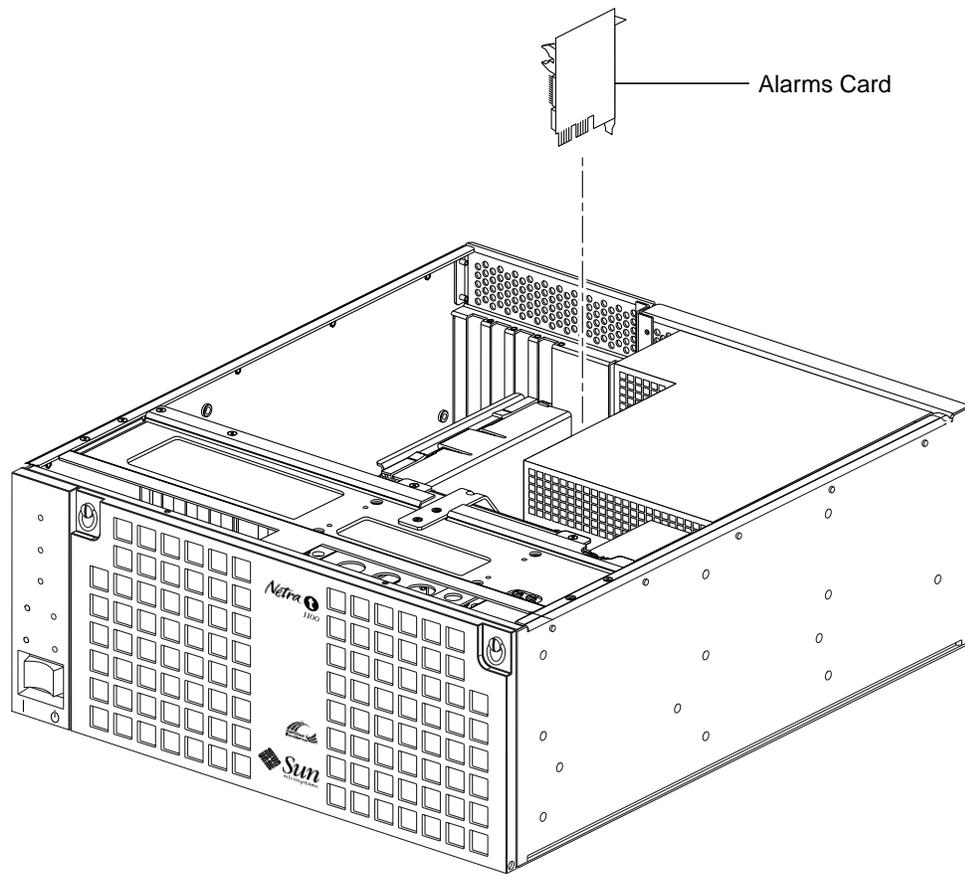

FIGURE 10-8 Removing and Replacing the Alarms Card
- 6. At the two upper corners of the alarms card, pull the card straight upward from the slot. See FIGURE 10-8 on page 89.**